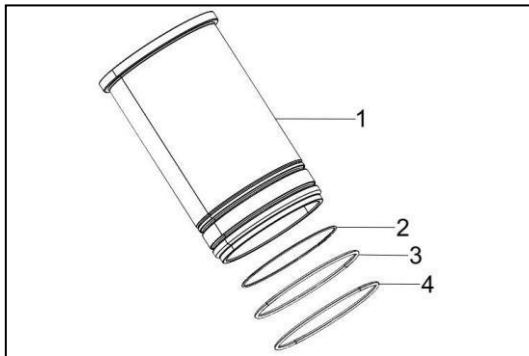

Figure 126
1. Equip the liner with new seals (Figure 126) coated with grease or clean oil.